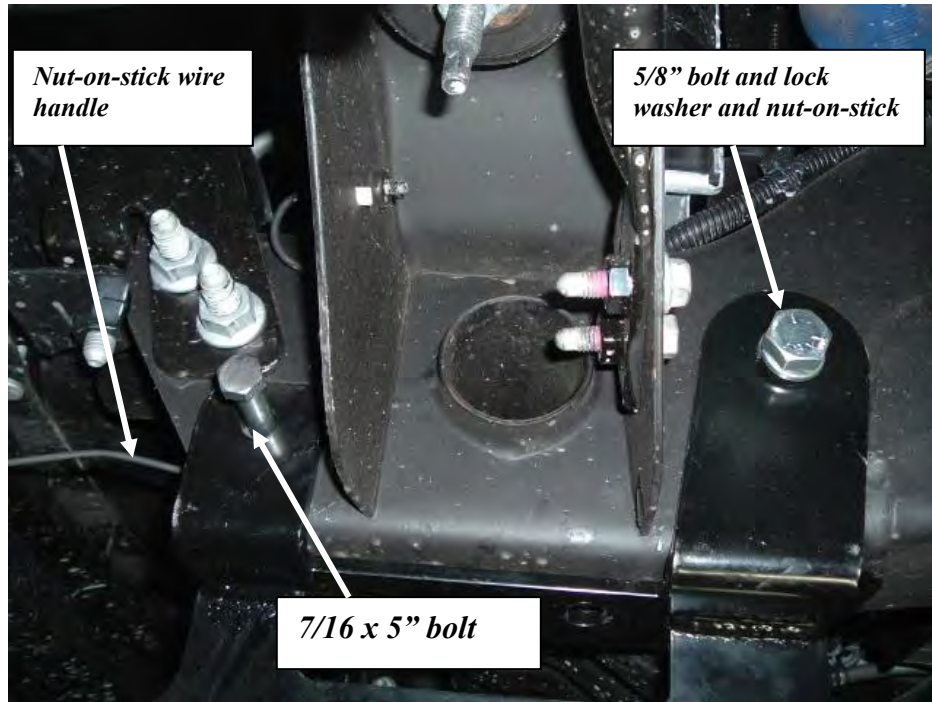

Figure 5 LH Bottom Bracket in place.
Remove the 7/16 x 5" bolts. Insert the LH and RH Frame Extensions into the frame. Reinstall the 7/16 x 5" bolt with flat washers (2ea), lock washers and nuts. Also install two (2) 1/2 x 1 3/4" bolts with lock washers and flat washers through the bottom of each Bottom Bracket and frame, into the nuts welded to the frame extensions. See **Figure 5 and 6**